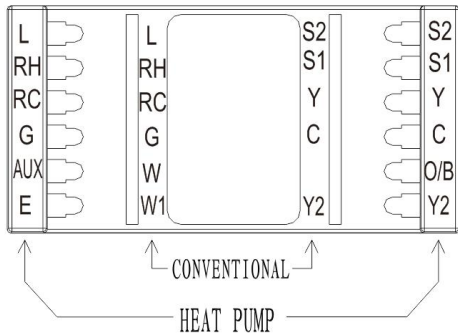

Figure 5
5. Connect wires to terminal block on base using appropriate wiring schematic (See Figure 5、 Figure 6)